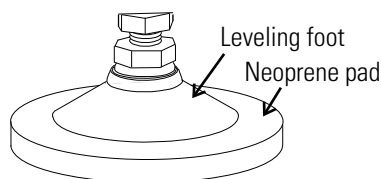
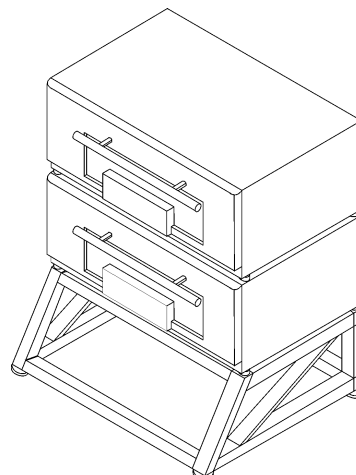

**Figure 1-10.** Exterior Top of Unit
**Figure 1-18.** Spacer
**Caution** Do not lift with forklift or other lifting device near the center of the unit base. Damage to the shaker mechanism mounting may occur. When lifting from the base, position the lifting device as close as possible to the leveling feet. Whenever possible, lift the unit by the four threaded inserts (Figure 1-10). Do not attempt to lift two units by the threaded inserts. The inserts are provided to lift and position only one unit at a time. ▲
2. Place the 1-1/2 inch tall spacers (Figure 1-18) over the threaded inserts in the top four corners of the bottom unit (Figure 1-10).
3. Using the appropriate lifting device, carefully raise the unit to be stacked and remove all (4) the leveling feet.